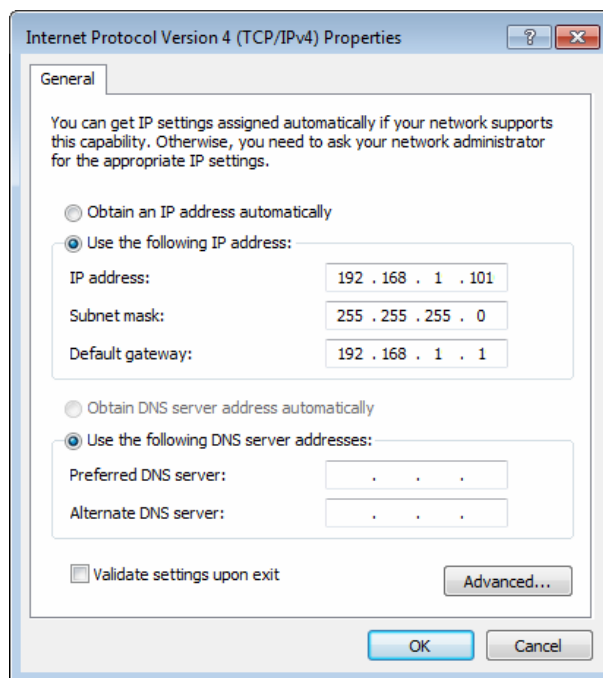

Figure 3-31
14. Enter the “**Internet Protocol (TCP/IP) Properties**” page as shown in Figure 3-31. Fill in the following parameters.